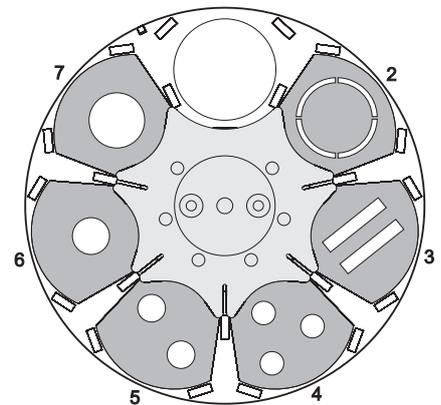

Figure 7
8. We recommend that you install beam effect gobos in the color wheel in the positions shown in Figure 7 in all the fixtures that you modify so that all MAC 250 Beam fixtures will have identical behavior under DMX control. A copy of this illustration is included on the last page of this guide as a reference for lighting designers and lighting desk operators.